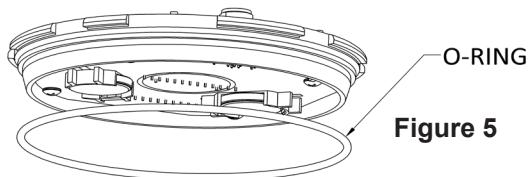

Figure 5
4. As noted in Figure 5, reinstall O-ring on electronics module. Align sensor receptacle in proper location. Press module gently down into meter cover.